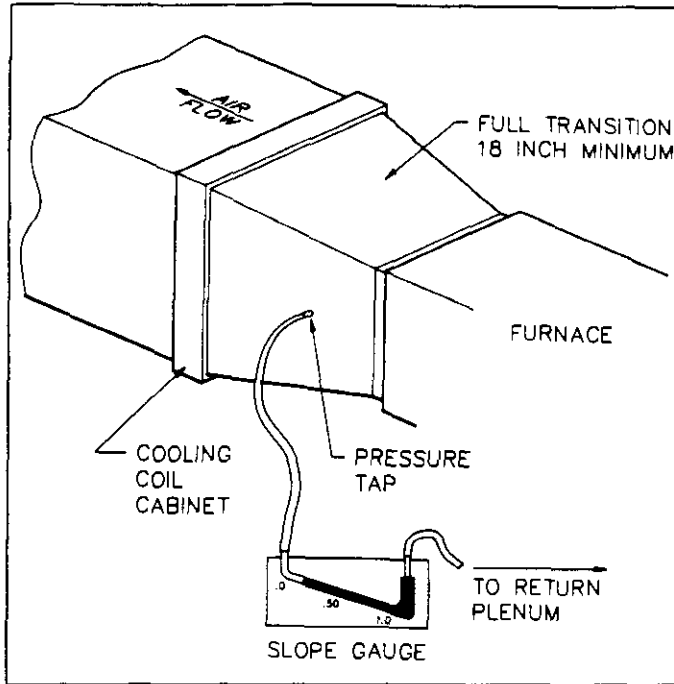

FIGURE 42
2. Insert one static pressure tap into supply air transition duct between furnace and cooling coil or in the supply air plenum for heating only systems. Insert other static pressure tap in return air plenum. See Figure 42.
3. Connect pressure tap attached to supply air transition duct (warm air supply plenum) to positive pressure side of slope gauge (bottom of scale). See Figure 42.
4. Connect pressure tap attached to return air plenum to negative pressure side of slope gauge (top of scale). See Figure 42.